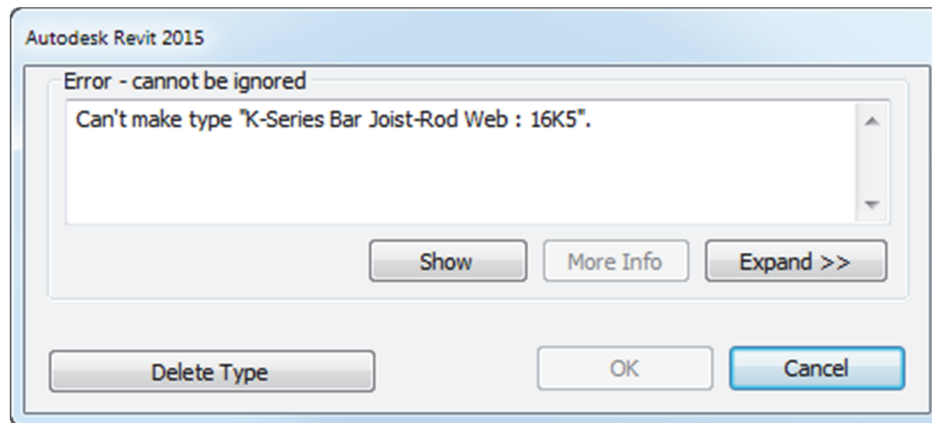

FIGURE 7-4.14 Warning message
- b. **For the curved area in the lower left;** use the *Sketch* option rather than *Automatic* within the *Beam System* tool (see steps 37-39). Sketch the line pointed out in the image to the right first. Click *Delete Type* to continue when prompted (Figure 7-4.14).